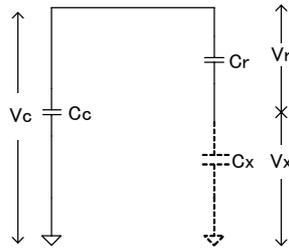

Figure 3-2 Process(4), (5) equivalent circuit
- (5) The voltage of C_x is compared with V_{ref} with a comparator.
For the process (4),(5), the equivalent circuit is shown in Figure 3-2. The voltage C_r and C_x must equalize to the voltage on C_c . The charge of C_c distributes to C_x and C_r . The relationship of voltages V_r , V_c , V_x and capacitances, C_c , C_r , and C_x are as follows.